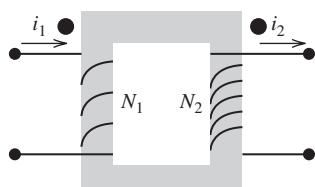

FIGURE P12.26 Mutual induction.
- 12.26 (H)** The mutual inductance between the coils shown in Figure P12.26 is denoted by M . Prove that $M = N_1 N_2 / \mathfrak{R}$, where N_1 and N_2 are the number of turns of the primary and secondary coils, respectively, and \mathfrak{R} is the magnetic reluctance of the core.